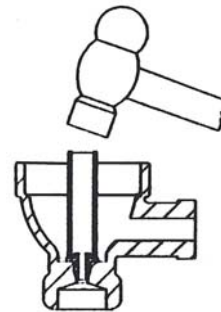

Fig. 1
4. Place adaptor seat into orifice and drive it into the body using a hammer and the PVC tube supplied (See Fig. 1). If the adaptor bottoms on the hexagon collar and still turns, the trap is not repairable. If secure, proceed.